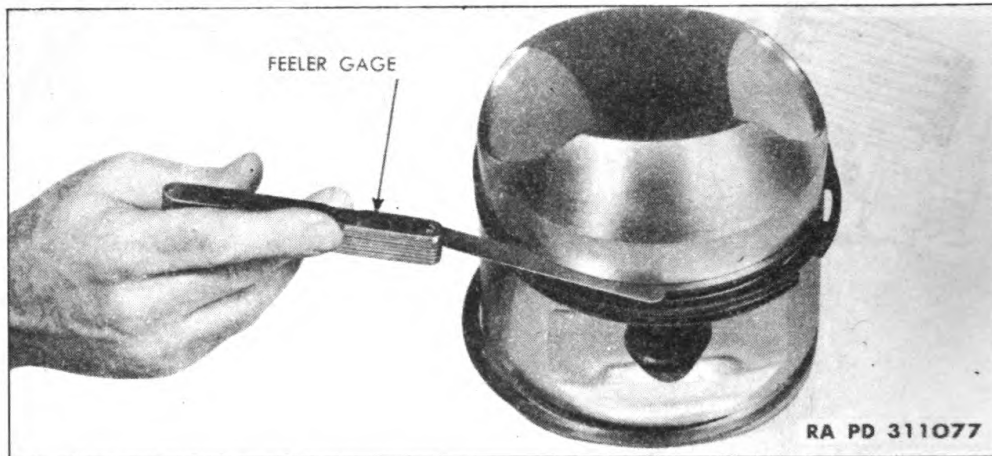

Figure 30 — Checking Piston Ring Side Clearance
(3) **INSPECTION.** Inspect pistons for cracks and scoring. Check piston skirt wear. Check ring groove wear, using standard ring and feeler gage (fig. 30). Check piston pin hole wear (par. 22). Piston rings are always replaced at overhaul. Discard old rings without inspection.
(4) **REPAIR.** Place a new piston ring in the cylinder, pressing it down about half way into bore so that ring will be square with cylinder wall. Measure and refer to paragraph 22 for proper gap. If gap is less than that prescribed, remove ring and file with a fine cut file until correct gap is obtained. When correct gap has been obtained for each ring, roll the new ring around its particular groove in piston. The ring should roll freely. Remove any raised metal resulting from nicks that prevent ring from rolling freely. Measure the clearance between the ring and groove with a feeler gage (fig. 30).